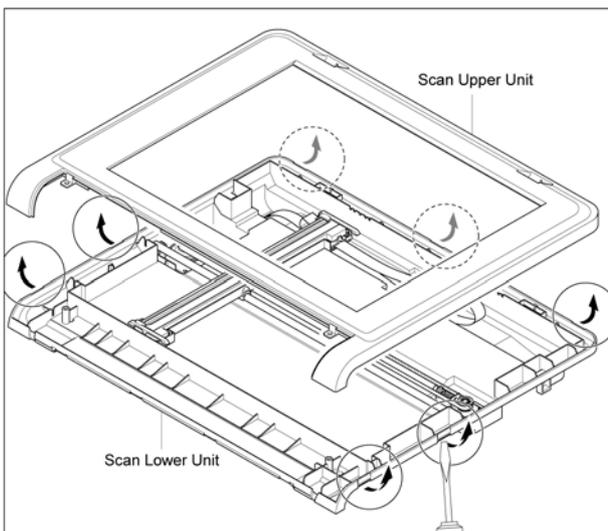

Figure 7
9. Use a flat-bladed screwdriver to release 7 hooks securing the Scan Upper Unit to the Scan Lower Unit, Figure 7.